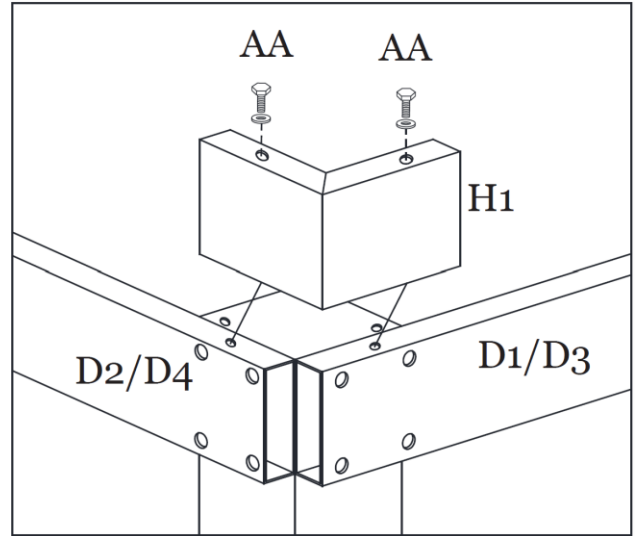

Figure 6-2
Step 6B: Attach Corner Lintel Cover (H1) to Lintels (D1 and D4) and (D2 and D3) using Bolts (AA). Repeat for all Corners. **Tighten all Bolts.** See Figure 6-2.